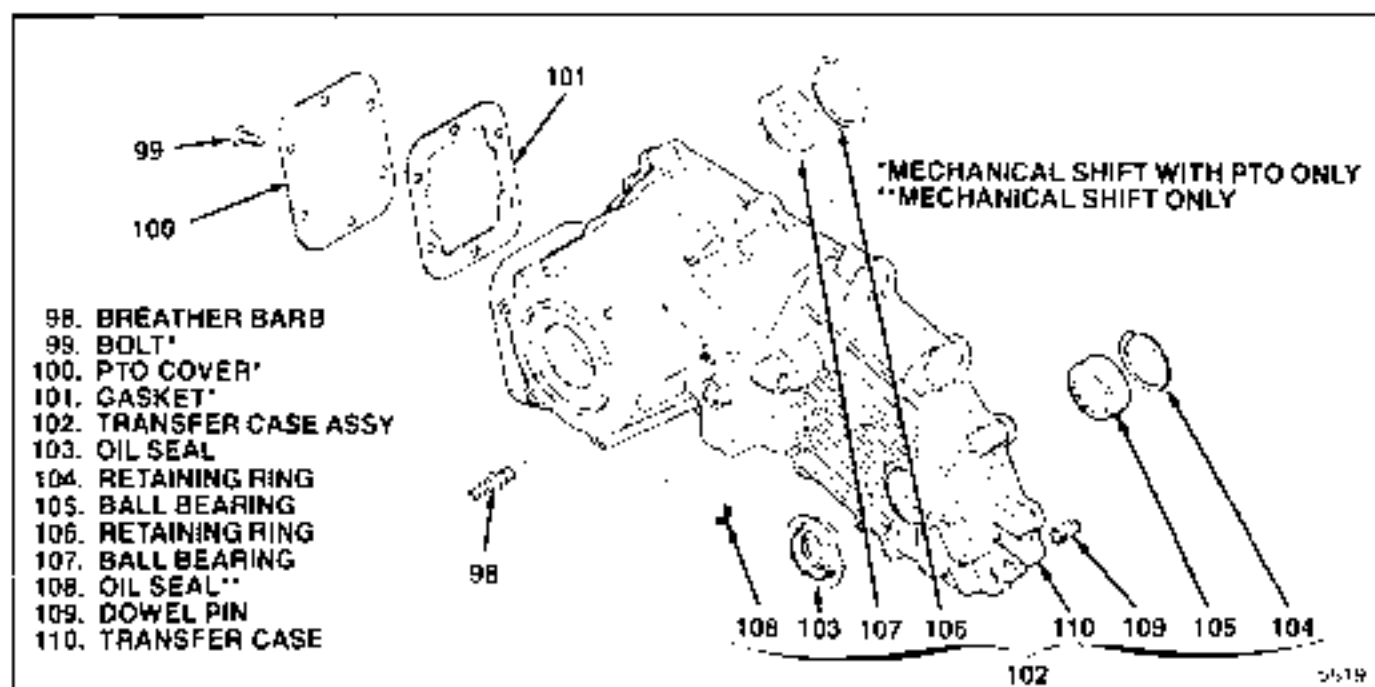
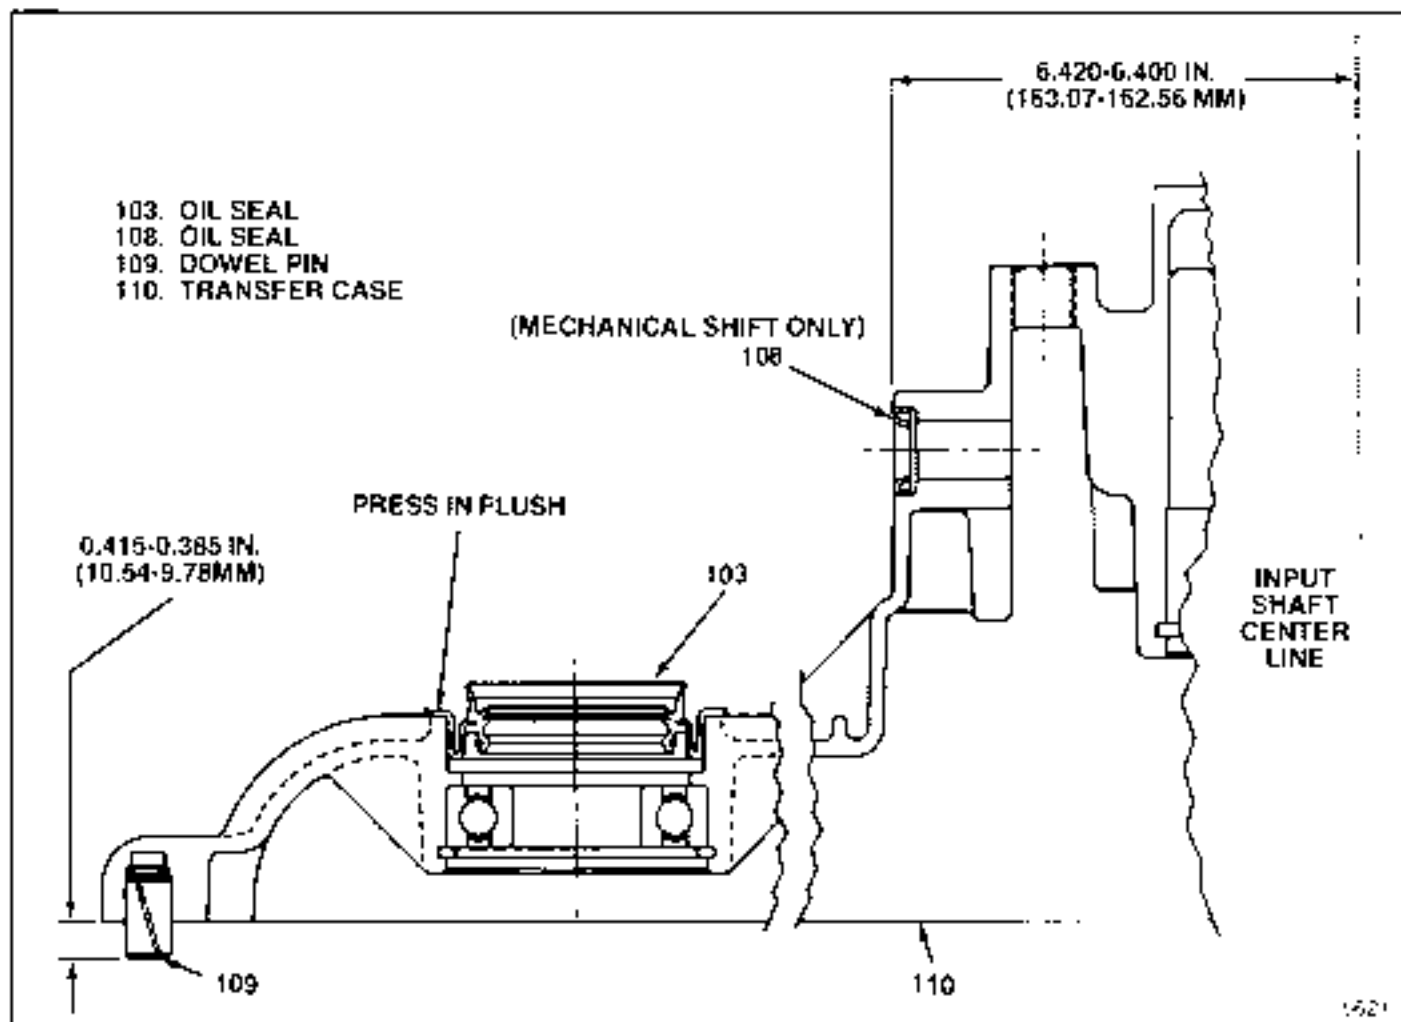

Figure 5-1. Transfer Case Assembly
Figure 5-2. Installing Parts in Transfer Case
**5-5. ASSEMBLY OF CASE ASSEMBLY.** Assemble parts which were removed from transfer case as follows (see figure 5-1):
- a. If removed, press two new dowel pins (109) into transfer case to dimensions shown in figure 5-2.
- b. For mechanical shift units only, press in new oil seal (108) to dimension shown in figure 5-2.
- c. Press in ball bearing (107) to bottom in transfer case (110) and install retaining ring (106).
- d. Press in ball bearing (105) to bottom in transfer case (110) and install retaining ring (104).
- e. Position new oil seal (103) as shown in figure 5-2 and press in to seat seal flange against transfer case (110).
f. For PTO units only, install gasket (101), PTO cover (100) and four bolts (99). Torque bolts to 15-25 lb-ft (20.3-34.0 Nm).
g. Install breather barb (98) and torque to 6-10 lb-ft (8-14 Nm).
**5-6. ASSEMBLY OF FRONT OUTPUT SHAFT GROUP.** To assembly as completed thus far (98 through 110), assemble the following (see figure 5-1):
- a. If removed, press deflector (95) onto yoke (96).
- b. Position output shaft (97) in transfer case (110) and install yoke assembly (94), oil seal (93), washer (92) and nut (91) on output shaft. Hold yoke with torque bar T-11-56-092 and torque nut to 150-180 lb-ft (200-244 Nm).